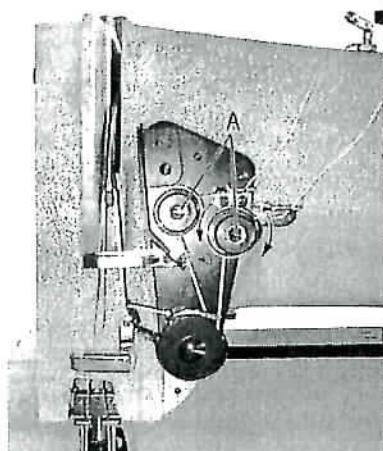

Fig.13
## 9.REGULATING THE THREAD TENSIONS (Figs. 13 & 14)
- 1) The tension on the needle thread is regulated by the thumb nut A (Fig. 13) .